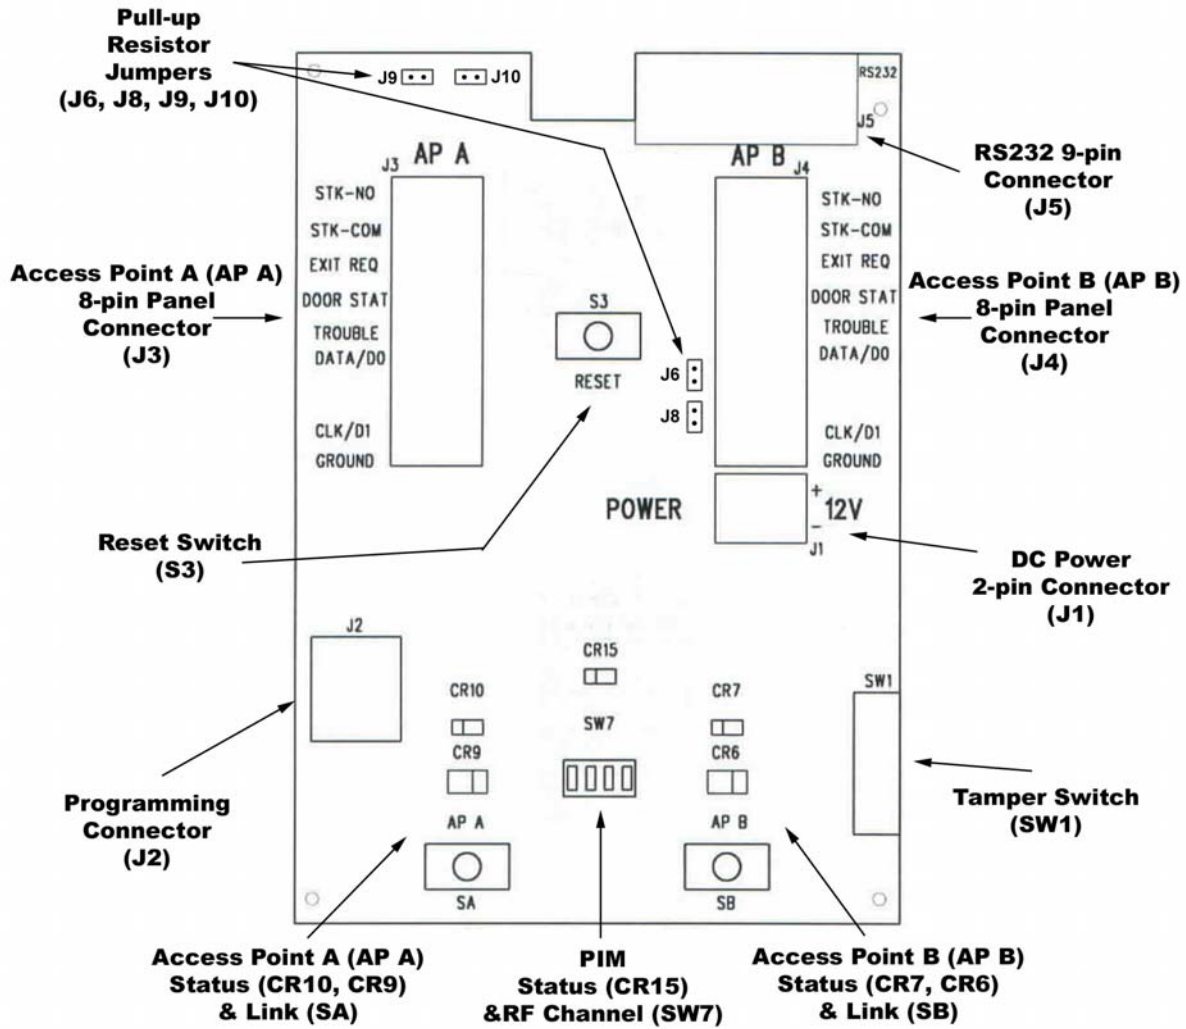
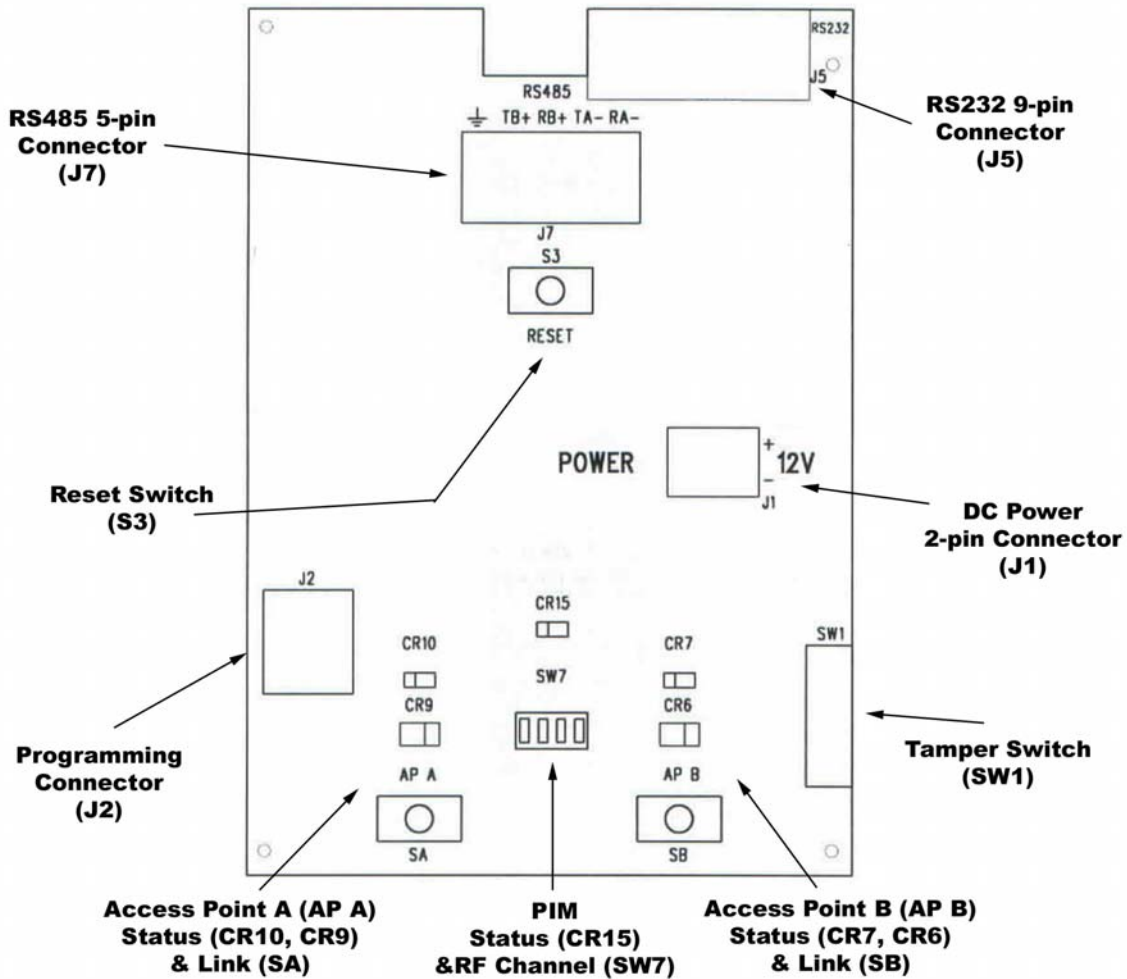

Figure 3-1 – RS232 PIM & PIME Printed Circuit Board (PCB)
Figure 3-2 – RS485 PIM & PIME Printed Circuit Board (PCB)
- 2.2.4 Power the PIM temporarily with a 12-volt battery capable of delivering 300 mA by connecting it to J1 – positive left, negative right (depending on PIM PCB being used see Figure 3-1 or Figure 3-2).
- 2.2.5 Put the PIM into Link Mode (S1 or S2) for the WAPM (A or B) being tested (depending on PIM PCB being used see Figure 3-1 or Figure 3-2).
There are two versions of the PIM printed circuit board (PCB): RS232 (Figure 3-1), and RS485 (Figure 3-2).
The version of PIM PCB being installed can be identified by observing which connectors are installed on the PCB. Compare the board being installed to Figure 3-1, and Figure 3-2.
3.1.1 RS232 PIM PCB (Figure 3-1)
3.1.2 RS485 PIM PCB (Figure 3-2)
PIM signal wiring connections to an access control panel are accomplished using two 8-Pin Connectors. J3 is used to connect Access Point A (AP A) and J4 is used for Access Point B (AP B) (depending on PIM PCB being used see Figure 3-1 or Figure 3-2).
DC power is connected to the PIM via connector J1. Positive is the left pin, negative is the right pin (depending on PIM PCB being used see Figure 3-1 or Figure 3-2).
A serial RS485 connection can be made to the PIM using connector J6. This connection is used for system configuration and future features (depending on PIM PCB being used see Figure 3-1 or Figure 3-2).
The RF channel to be used to communicate with the Access Points is selected using a 4 position, single pole, single throw DIP switch SW7 (depending on PIM PCB being used see Figure 3-1 or Figure 3-2).
A PIM/Access Point link mode process is initiated using a Link Switch, either S1 for AP A or S2 for AP B (depending on PIM PCB being used see Figure 3-1 or Figure 3-2).
The status of an Access Point is indicated using two LEDs: one for the real time status and one for trouble status. A red/green LED is used for real time status: CR9 for AP A and CR6 for AP B. A red LED is used for trouble status: CR10 for AP A and CR7 for AP B (depending on PIM PCB being used see Figure 3-1 or Figure 3-2).
Switch S3 is provided to reset the PIM without having to cycle power (depending on PIM PCB being used see Figure 3-1 or Figure 3-2).
A programming connector (J2) is provided to allow new PIM firmware versions to be installed (depending on PIM PCB being used see Figure 3-1 or Figure 3-2).
A tamper switch (SW1) is provided to indicate when the PIM enclosure cover is open (depending on PIM PCB being used see Figure 3-1 or Figure 3-2).